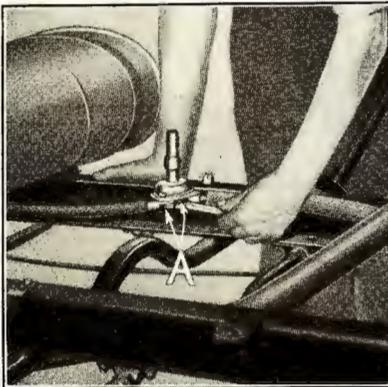

Fig. 43
- (c) Disconnect battery to switch and motor to switch cables at starting switch by running off the two starting switch terminal nuts (See "A" Fig. 43), and lifting cables off ends of terminals.